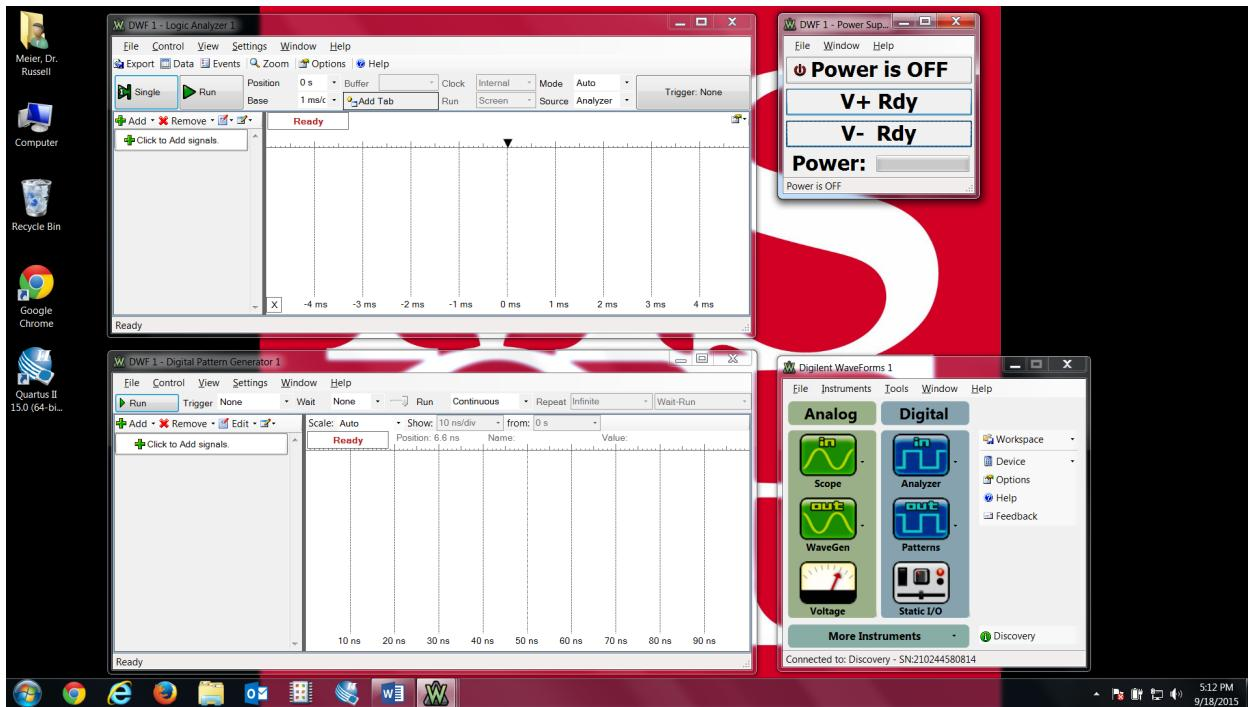

Figure 5: Waveforms with Visible Logic Analyzer, Voltage, and Pattern Generator Instruments
- Push the buttons for voltage (power supply), patterns, and analyzer. **Organize** your instrument control panels so that they appear on screen as shown in Figure 5. The instruments in Figure 5 clockwise from upper left are: logic analyzer, power supply, instrument panel, and pattern generator.